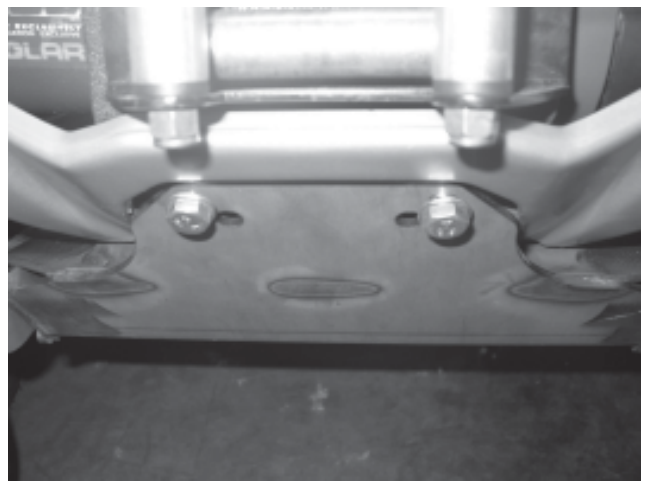

Figure 12
- Secure the plow mount to the winch mount. Use a 16mm socket with two M10x25mm bolts with 3/16" flat washers (Figure 12). Do not tighten all the way.